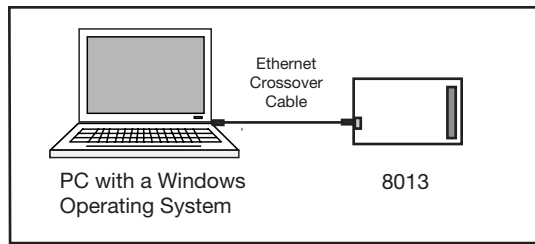

Figure 2-6 8013 Connected to PC with a Crossover Cable
1. Connect the board directly to the WIN32 PC that will be running the Configuration Utility. Disconnect the PC from the company network and use the supplied Ethernet Crossover Cable to connect the PC to the board as shown in Figure 2-6. This will eliminate any potential network conflicts while configuring the board.